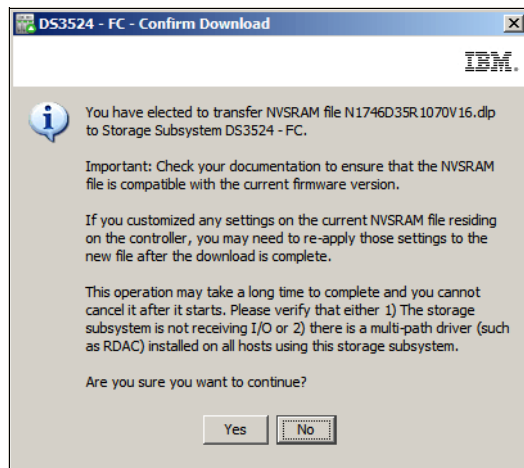

Figure 14-77 Confirm NVSRAM Download
3. After you have selected the NVSRAM file that you want to install, click the **Transfer** button to begin installing the new NVSRAM file on the storage subsystem. The **Confirm Download** window appears (Figure 14-77). Read the information and click **Yes** to start the NVSRAM download.